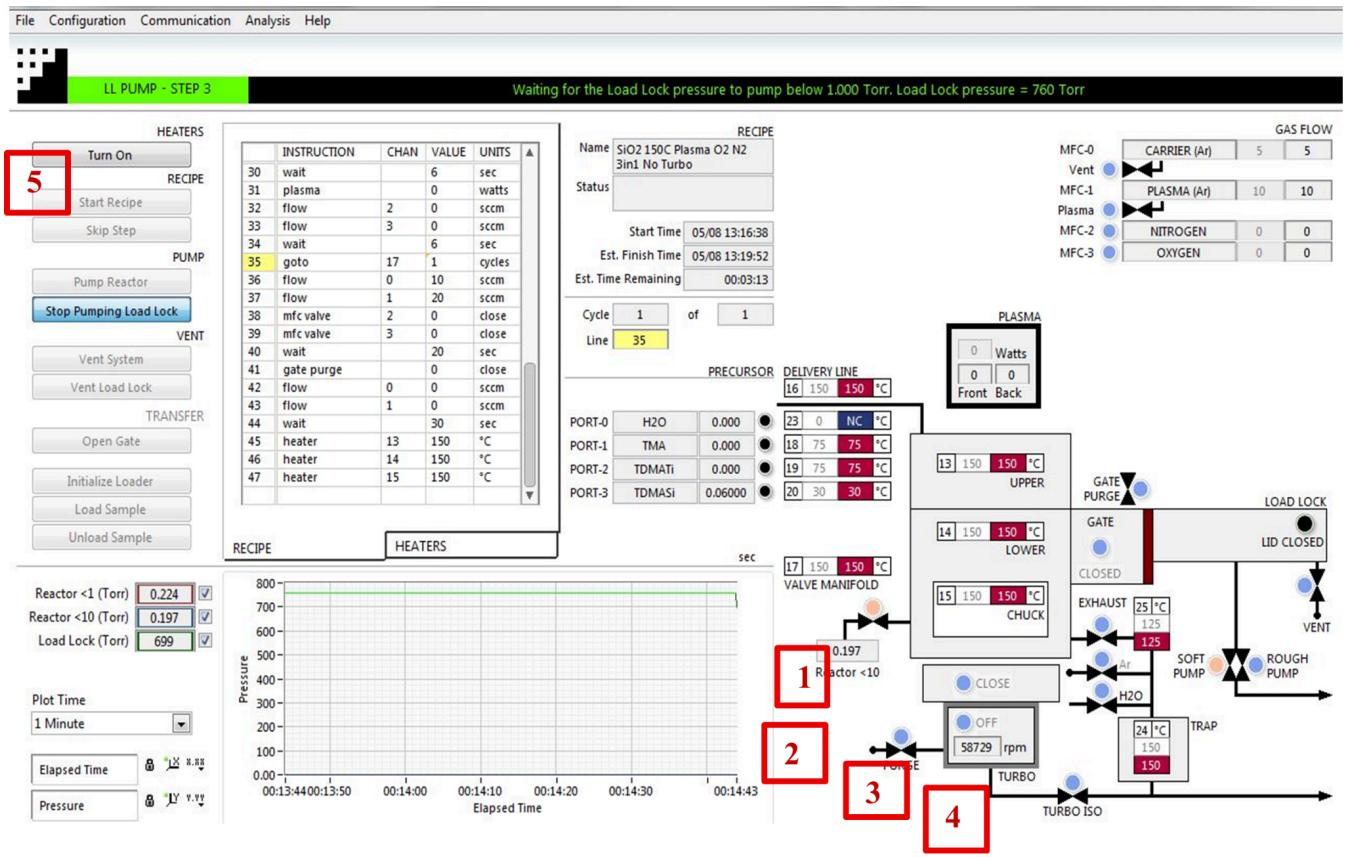

Figure 5 Isolating reactor chamber and Pumping LL
4. Isolate the reactor chamber by: (**follow figure 5**)